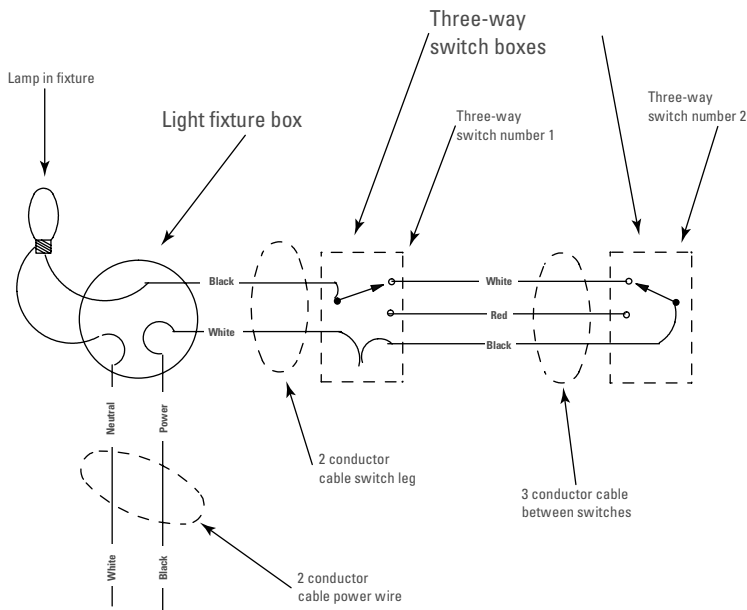

Figure 4-4: Three-way switches allow you to control lights from two separate locations.
Figure 4-4 shows the wiring diagram for a three-way switch circuit. The ground (green or bare) wire is omitted both in the text and the diagram for clarity. Bear in mind the ground wires are always connected together and connected to all wiring device ground terminals.
To wire the three-way circuit shown in Figure 4-4, follow these steps:
This switch is called switch number 1 in Figure 4-4.
This switch is called switch number 2 in Figure 4-4.
3. **Connect the red and white wires to the brass screws on each three-way switch assembly, as shown in Figure 4-4.**
- ✓ The three-way switch diagram in Figure 4-4 shows both commons on the three-way switches connecting the commons to the whites. You can see that if one of the three-way switches is operated, there's no longer a circuit. Now one of the commons will be connected to the red. Further, you can see the circuit to the light fixture can be restored by operating either switch. You can also see that the circuit still behaves the same by connecting the travelers on the opposite switch common terminals. It doesn't matter which traveler color connects to which screw, it still works the same.